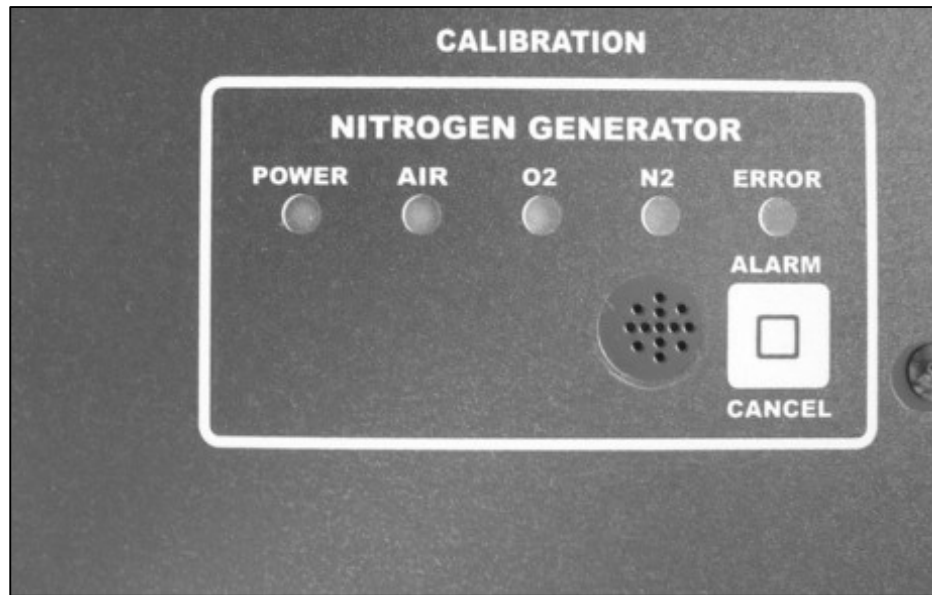

Figure 2
11. **Nitrogen Generator Diagnostic Lights:** These lights inform the operator of the status of the self-calibration process as well as Tester readiness. (Figure 2)